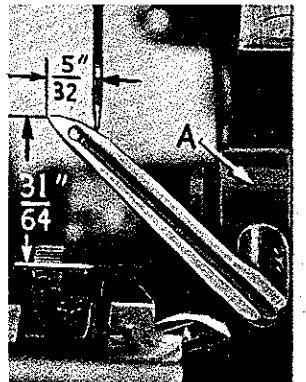

Fig. 10
Next turn handwheel until upper looper is at the left end of its travel; check dimensions of upper looper point from needle and throat plate (Fig. 10). If resetting is necessary, do it by moving upper looper holder (A, Fig. 10). For example: dimension $31/64$ inch is increased by turning upper looper holder counter-clockwise looking from left end of machine; and dimension $5/32$ inch is increased by pulling upper looper holder left, out of upper looper shaft. After these changes are made it may be necessary to turn upper looper around its shank slightly to maintain the condition shown in (Fig. 9).
If it becomes necessary to move looper thread pull-off (T) be sure to take up all end play in needle drive shaft before tightening. If upper looper is located so that it is higher over throat plate than recommended in (Fig. 10), the purl will tend to form near top edge. If upper looper is too low, the purl will form nearer bottom edge.